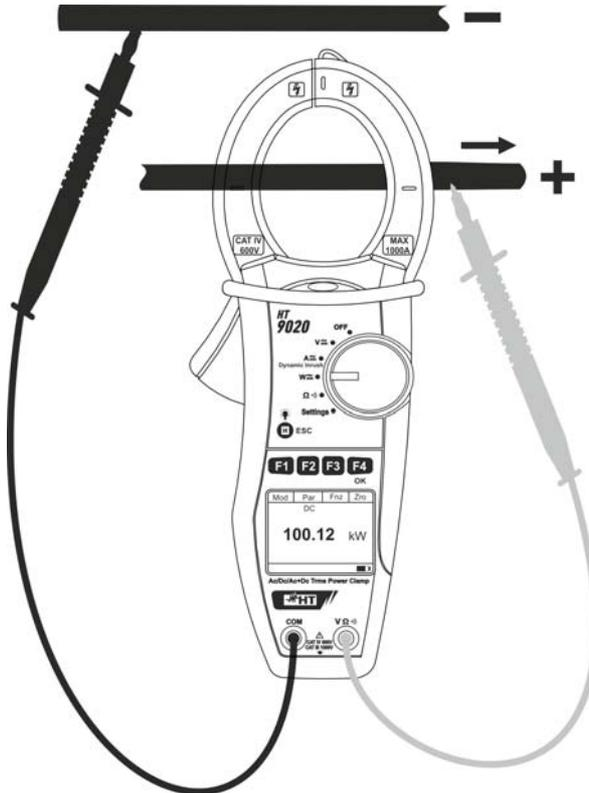

Fig. 11: DC power/energy measurement
5. Connect red cable to input lead **VΩ μ**) and black cable to input lead **COM**. Position red lead to “+” and black lead to “-” then connect “+” cable to the clamp jaws, respecting the direction of current indicated by the arrow (see Fig. 11). Connect the cable to the middle of the clamp jaws, in order to get accurate measurements. Use the marks as a reference (see Fig. 2)
6. The value of DC power is displayed expressed in kW. Press **F2 (Par)** to open the drop-down menu shown on the screen aside and select the “**Volt/Curr**” option for the DC voltage and current measurement. Confirm with **F4 (OK)**. The following screen is displayed: